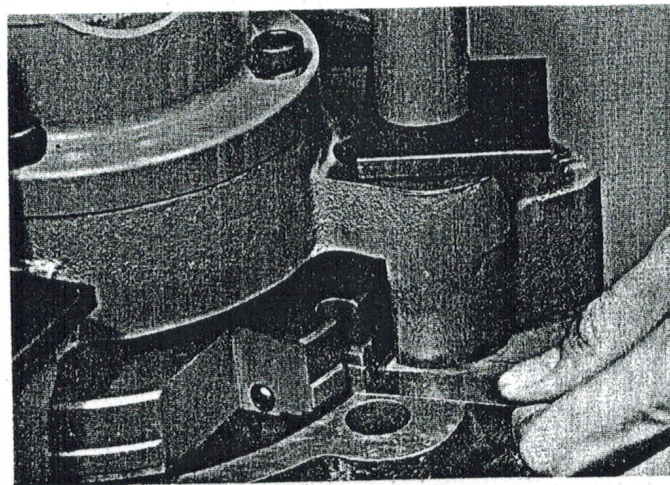

Fig. 7 Use of Feeler Gauge to Set Depth of Cut
6. Place a 0.004 inch feeler gauge between the block and the cutter (13). Lower the cutter (13) onto the feeler gauge by turning the needle valve knob (9) while pushing down very gently. (See Fig. 7).